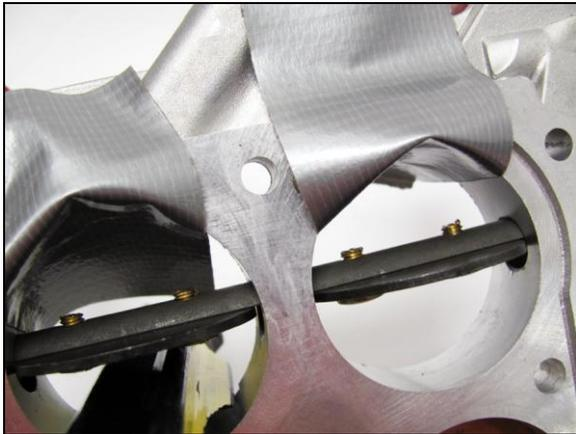

Figure 1
1. As shown in Figure 1, place the carburetor on its side to remove the throttle body screws. On vacuum secondary four barrels, it will be necessary to remove the "C" clip that holds the vacuum diaphragm stem onto the secondary throttle shaft. Also, remove the secondary throttle connecting rod. Place all screws, clips, and links on the side for later installation.